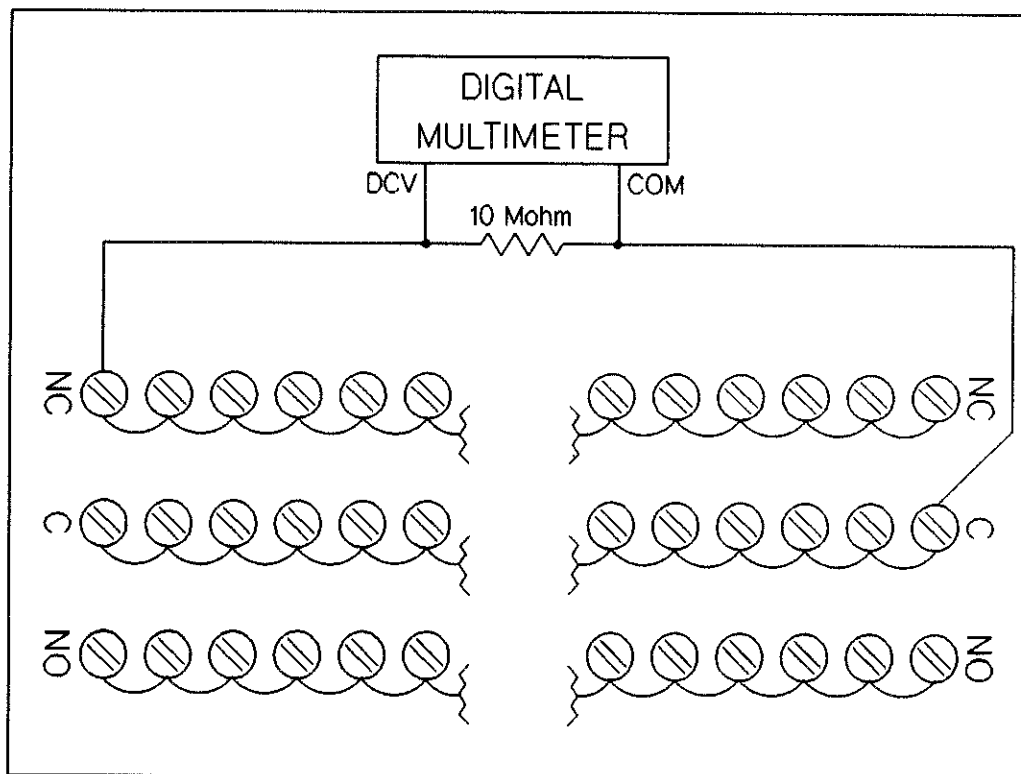

Figure 14-14 HP 44725A NC Channels Injected Current Test
10. Refer to Figure 14-14. Connect the multimeter DCV lead to the shorted NC lines of the test fixture. Connect the multimeter COM lead to the shorted C (Common) lines of the test fixture.